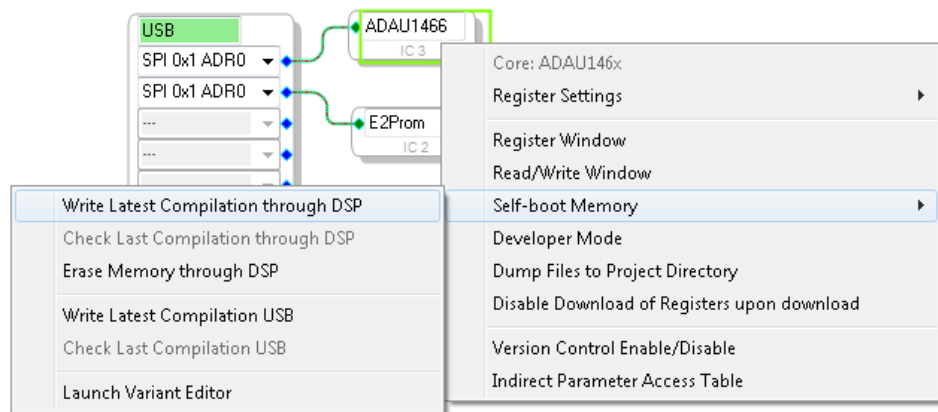

Figure 74. Writing to the EEPROM Through the ADAU1467 Master SPI Port
6. Right click the empty white space in the ADAU1467 IC block in the **Hardware Configuration** tab of SigmaStudio. From the menu that appears, select **Self-boot Memory**, then **Write Latest Compilation through DSP** (see Figure 74).